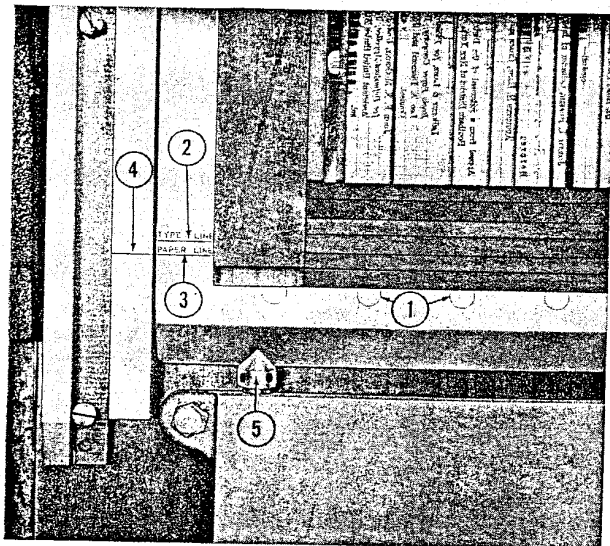

Figure 27—Chase Alignment
d. CHASE ADJUSTMENTS. (See figure 27).—Each chase furnished with the press has an inside dimension of  $14\frac{7}{8}$ " x  $19\frac{3}{4}$ " which will accommodate a full sized form  $12\frac{1}{4}$ " x 19" (two roller coverage). A  $13\frac{1}{4}$ " x 19" maximum form (one roller coverage) can be locked up by using quoins on the gripper edge. Circles (1), stamped on the gripper edge of the chase, indicate exact position of cylinder grippers. These circles are provided to aid the operator in properly positioning the form to secure the best gripper handling.
(d) Be sure the "PAPER LINE" (3) registers with alignment marking (4) on bed bearer as shown in figure 27. If necessary, raise or lower chase, as required, by turning chase adjusting screws.